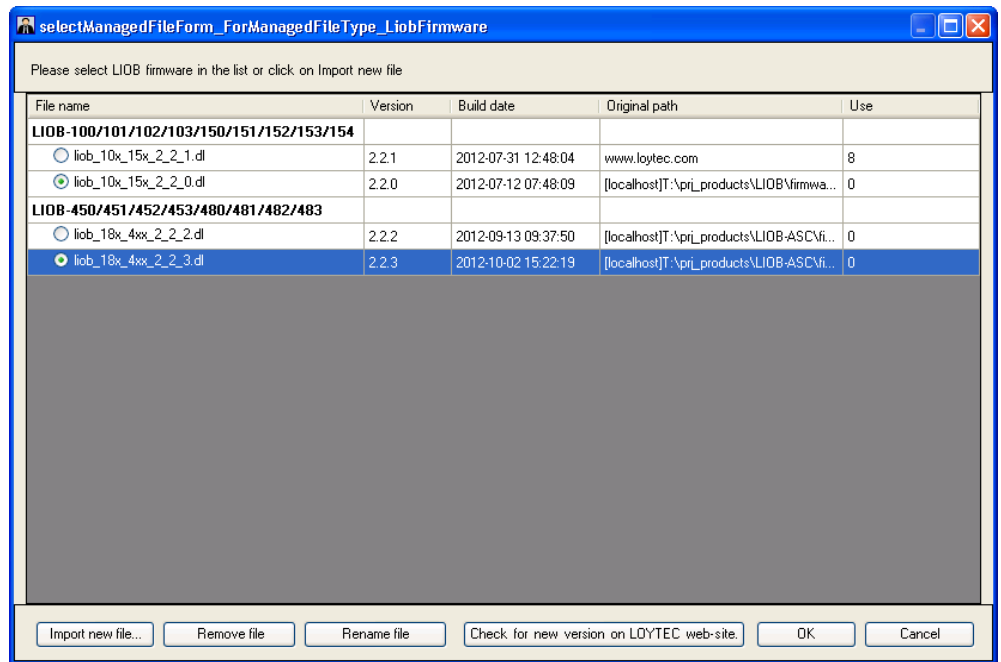

Figure 206: Select Firmware for L-IOB Devices Dialog
4. The **Select Firmware** dialog opens as shown in Figure 206. The dialog displays a list of available L-IOB firmware files. The list is split into separate sections for L-IOB devices which require different firmware files. If the desired L-IOB firmware version is already available in the list, select it and press **OK**. You can either import a new L-IOB firmware file from the hard disk or check if a new firmware is available on the LOYTEC web site: